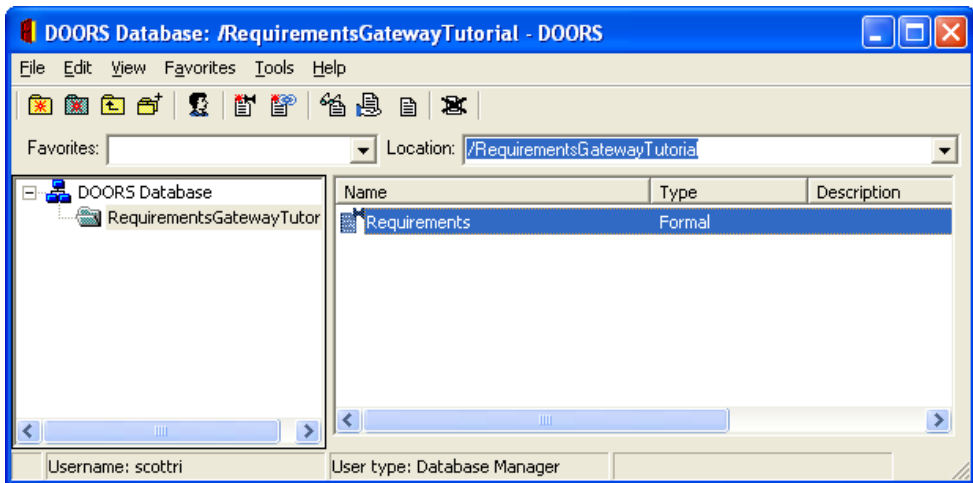

Figure 11-1. DOORS Database
6. Select the **RequirementsGatewayTutorial** project in the tree view to display the Requirements module in the list view, as shown in Figure 11-1.